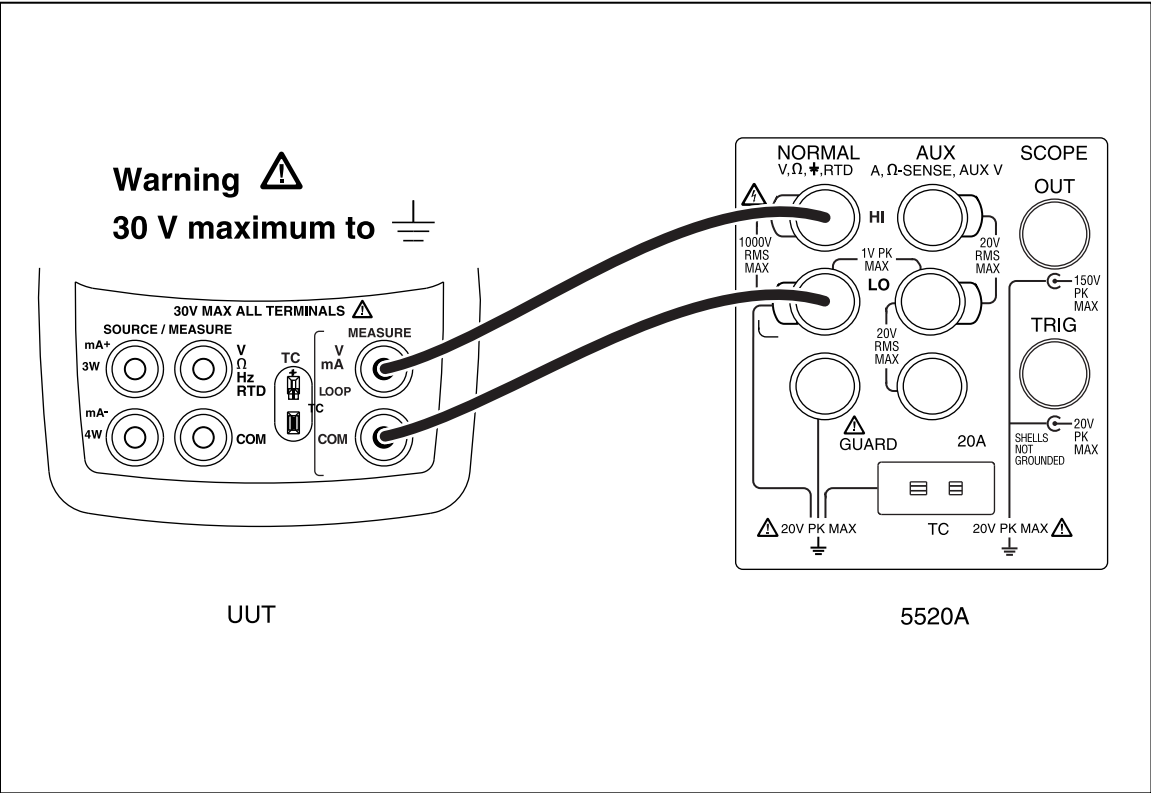

Figure 2. Upper Display Voltage Test Connections
- 3. Make the connections shown in Figure 2.